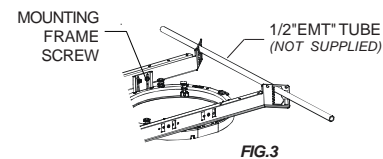
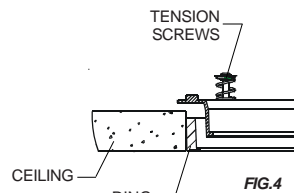

FIG.3
FIG.4
#### B. ADJUSTMENT: (Fig.3 & 4)
1. Place the ring level with the ceiling. (Fig.4)
2. If necessary, use the tension screws to adjust the height of the ring (Fig.4) and/or the mounting frame screws. (Fig.3)